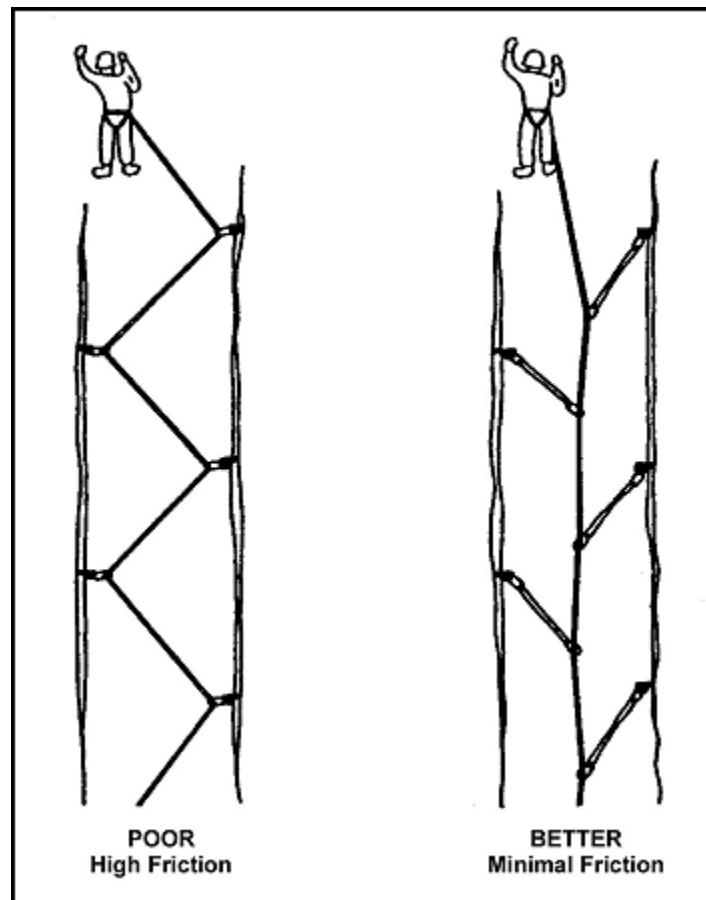

Figure 6-30. Use of slings on protection.
(3) ***Reducing Rope Drag; Using Runners.*** No matter how direct the route, the climber will often encounter problems with "rope drag" through the protection positions. The friction created by rope drag will increase to some degree every time the rope passes through a carabiner, or anchor. It will increase dramatically if the rope begins to "zigzag" as it travels through the carabiners. To prevent this, the placements should be positioned so the rope creates a smooth, almost straight line as it passes through the carabiners (Figure 6-30). Minimal rope drag is an inconvenience; severe rope drag may actually pull the climber off balance, inducing a fall.